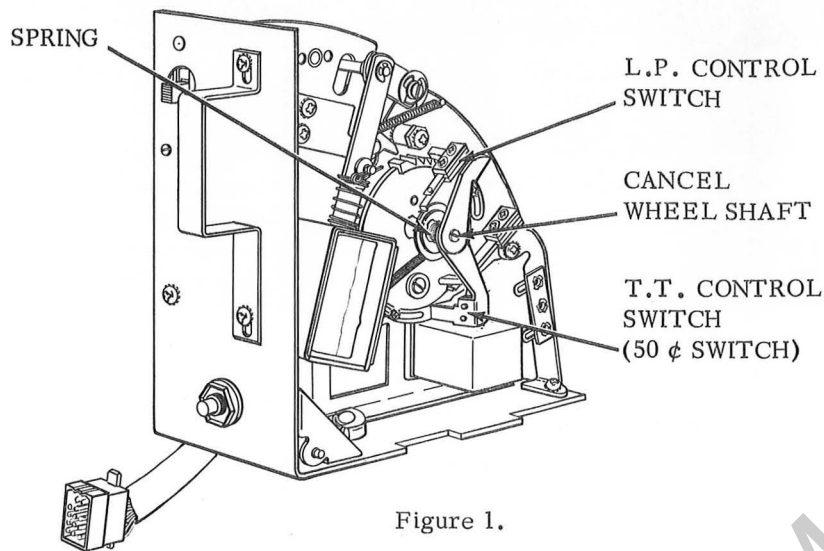

Figure 1.
2. Remove screw securing the LP CONTROL SWITCH, shown in Figure 1, and remove the LP CONTROL SWITCH from CANCEL WHEEL SHAFT. Retain screw for reassembly.
3. Remove screw securing the TT CONTROL SWITCH (50 Cent Switch), shown in Figure 1, and remove TT CONTROL SWITCH (50 Cent Switch) from CANCEL WHEEL SHAFT. Retain screw for reassembly.